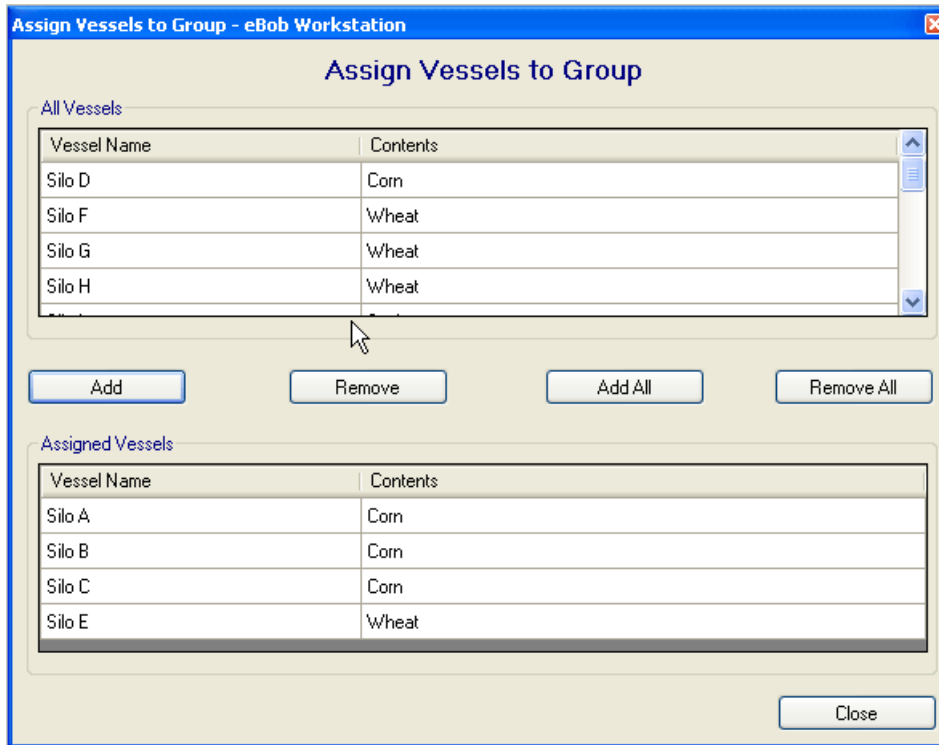

Figure 25
- **Assign Vessel** Opens a selection screen to assign individual vessel to the Group (Figure 25).